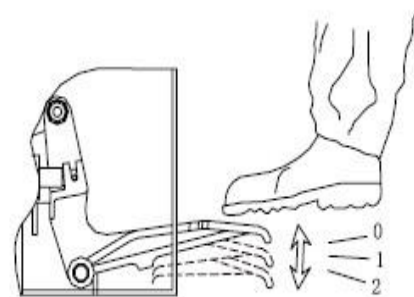
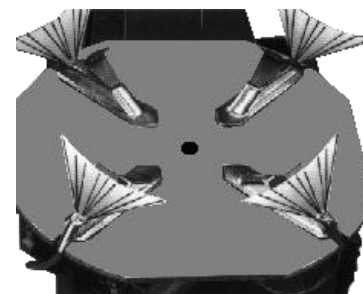

Fig 36
Fig 37
- a. Press Rapid Tire Inflation Pedal to the middle position (Fig 36, position 1), the inflating head should give air.
- b. Press Rapid Tire Inflation Pedal all the way down (Fig 36, position 2), a strong air blast should come from the holes in the four jaws' locking sliders. (Fig 37)